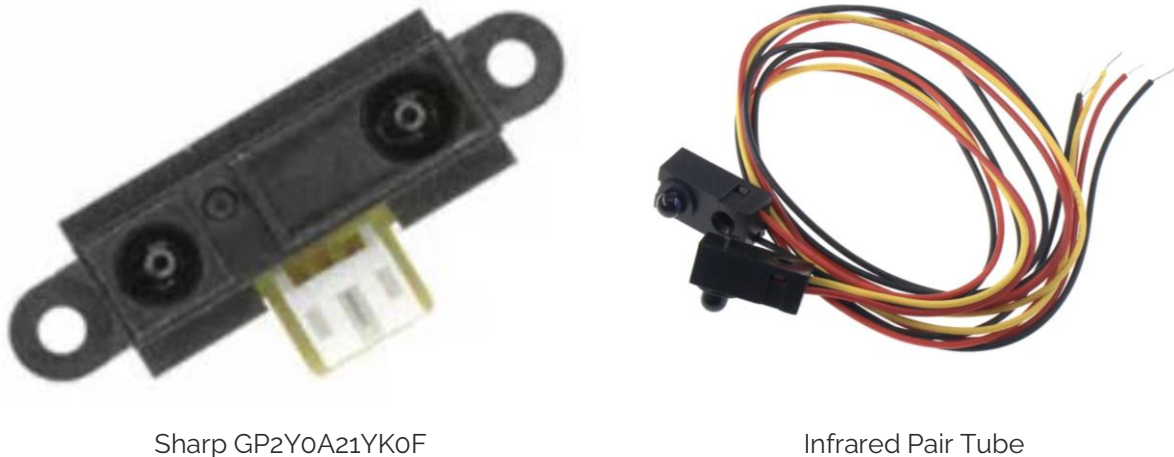

Figure 1: Different configurations for infrared distance sensors.
Infrared (IR) distance sensors measure distance using the same operating principle as other distance sensors: through emitting and receiving a signal that is reflected by an object. IR distance sensors can be constructed in varying sizes, and two models are shown in Figure 1.